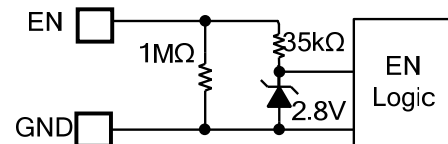

Figure 2: Zener Diode between EN and GND
Enable (EN) is a digital control pin that turns the regulator on and off. Drive EN high to turn on the regulator; drive EN low to turn off the regulator. An internal 1MΩ resistor from EN to GND allows EN to be floated to shut down the chip. EN is clamped internally using a 2.8V series Zener diode (see Figure 2). Connecting the EN input through a pull-up resistor to the voltage on VIN limits the EN input current below 100μA, preventing damage to the Zener diode.